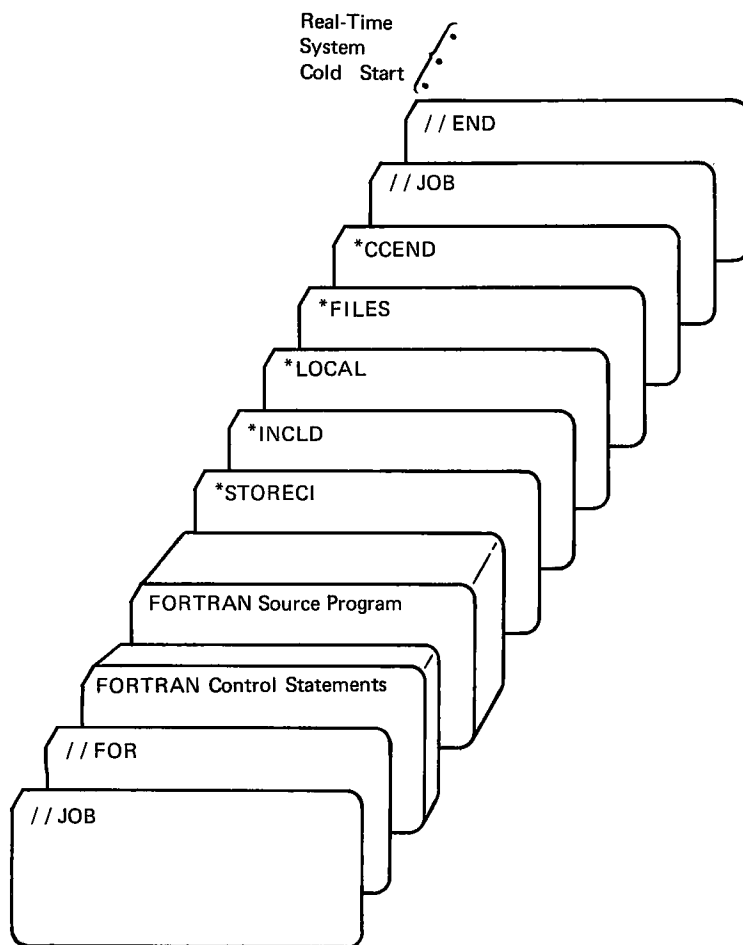

Figure 8. Compile and/or Assemble User-Written Programs and Build Process Coreloads for Execution
4. Complete the control statements necessary to assemble or compile and build your process coreloads as illustrated in Figure 8.